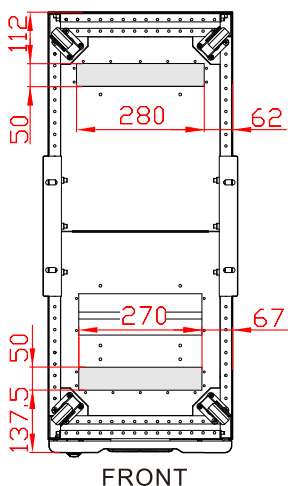
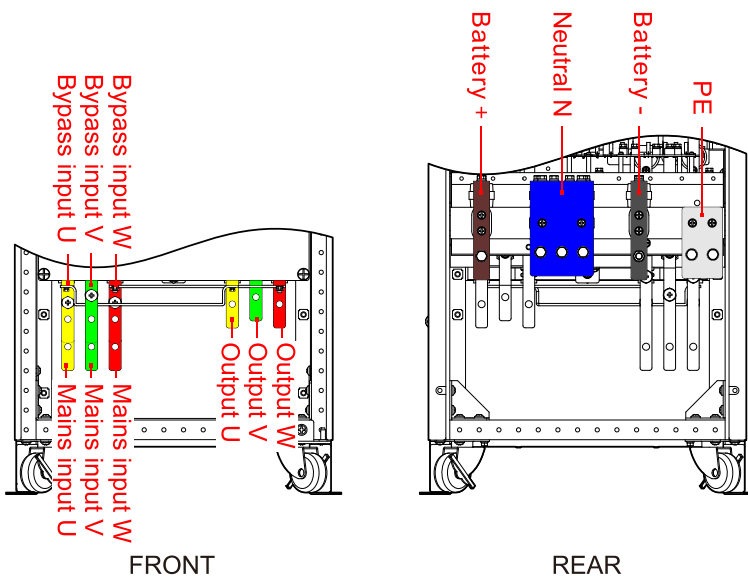

Figure3-29 Down wiring holes diagram of IST7-60, IST7-100, IST7-120
Figure3-30 Wiring terminal diagram of IST7-60, IST7-100, IST7-120
Step 2 Lead the input cables, output cables, battery cables and PE go through the bottom wiring hole (the diagrams of down wiring hole are as shown in Figure3-29), and connect the cables with terminal bars according to Figure3-30 respectively, then fasten the bolts.